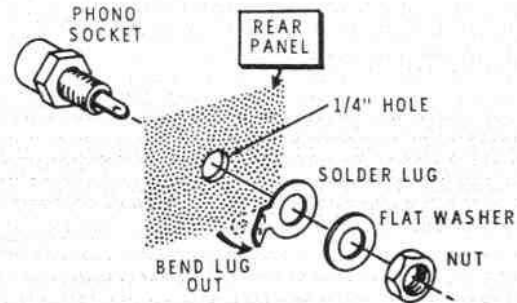
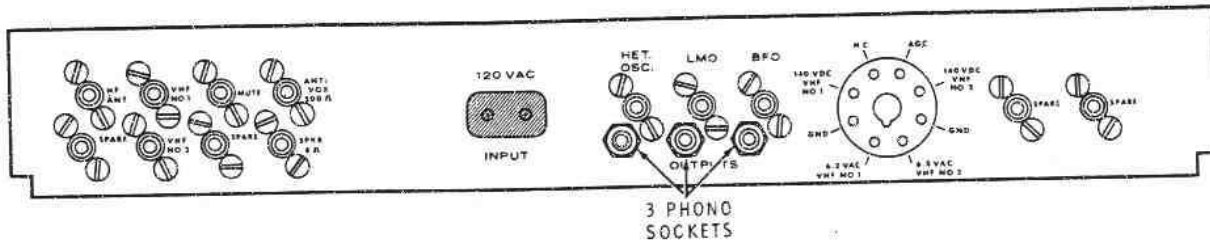

Figure 3-1
Figure 3-11
Three unused phono sockets must be available on the rear panel of your receiving equipment. If they are not, they must be installed. Your kit contains three phono sockets (with mounting hardware) for this purpose. Figure 3-1 is the socket mounting detail. DO NOT drill any holes until you have carefully read the "Installation" instructions for your equipment.
- () Refer to Figure 3-11 and install three phono sockets at the locations shown. Refer to Figure 3-1 for the hardware mounting detail.